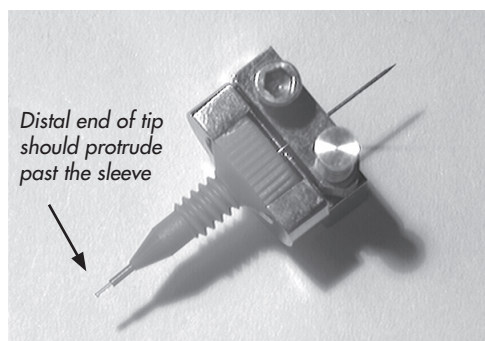

Figure 22
5. Carefully lift the spring clamp up and over the PicoTip, taking care not to damage the tip (see Figure 22). The screw protruding from the top of the clamp should insert into the mating hole in the base. The tip will be between the conductive elastomer and the base of the spring clamp. (See Figure 6 on page 6)
6. Trim the 5 cm PicoTip length (Figure 22). Use a high quality cleaving tool to minimize shattering of the tubing. A total PicoTip length of 27 mm should yield acceptable results. The PicoTip will protrude from the mount approximately 9 mm. Duo, Deca, and API-2 source users should refer to Section 3: Installation of the ADPT-TLC/ADPT-TLD. Users with the Protana source do not need a critical length since the Z adjustment on the stage will accommodate different tip lengths. The distal